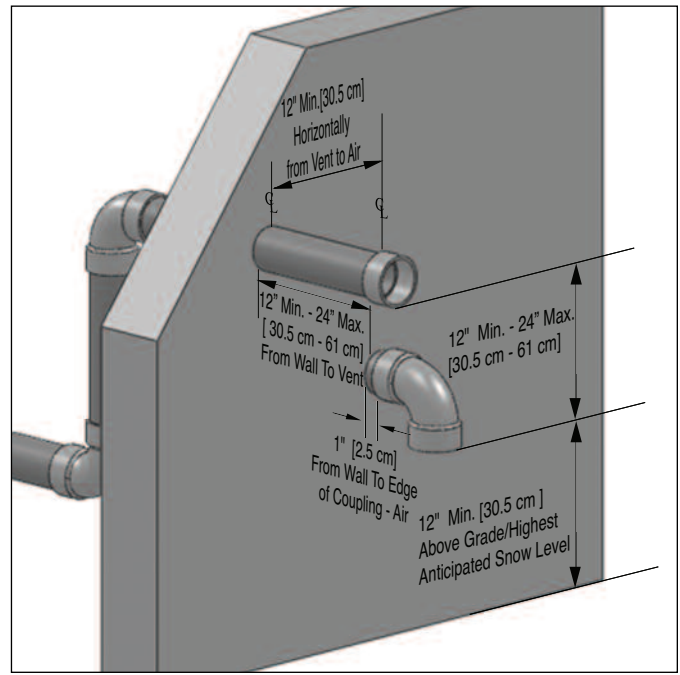

Fig. 7: Direct Vent - Alternate Sidewall Termination of Vent and Combustion Air Piping
- Using coupling as shown in Fig. 7 on page 19. The vent termination must be installed 12" [30.5 cm] minimum above grade / highest anticipated snow level.